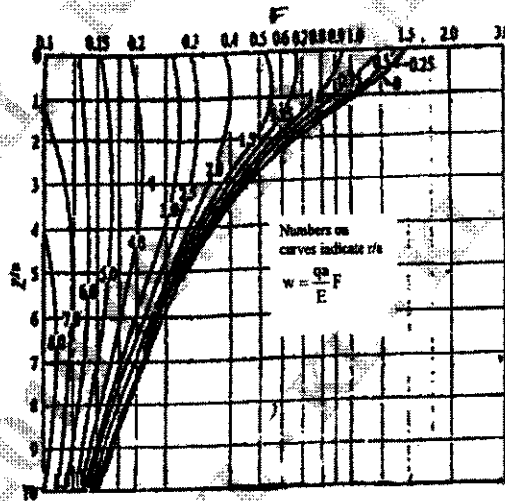

Fig.Q.2(b)
b. A dual wheel load assembly with 70kN load on each wheel and contact pressure of  $0.7\text{kN/mm}^2$  is applied on a homogeneous mass with modulus of elasticity  $12\text{N/mm}^2$ . If the centre to centre distance between the two wheel is 600mm, determine the deflection value at a depth of 0.5m at four points, at the centre of dual wheels and at radial distance of 300, 600 and 900mm from this centre along the line joining centers of the two wheel loads. Use deflection factor chart Fig.Q.2(b). (08 Marks)